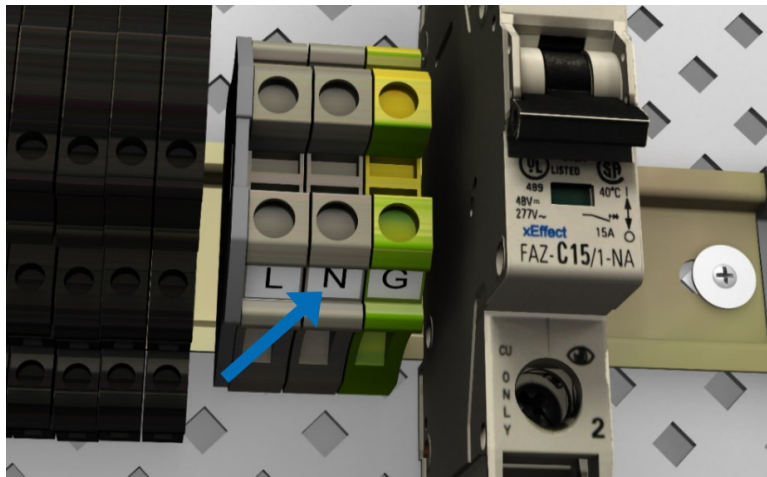

FIGURE B-7. Applying labels
6. Apply any labels needed to identify specific connections (FIGURE B-7 (p. 36)).